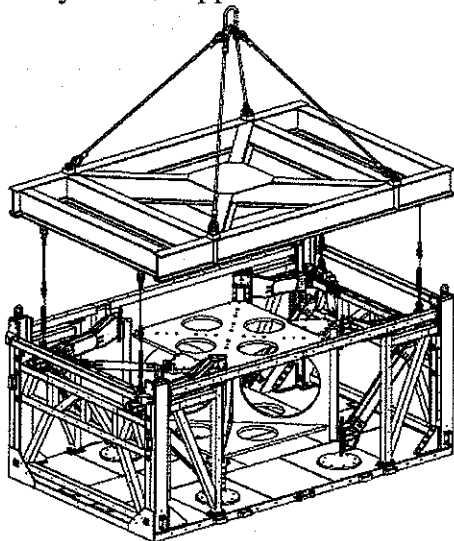

Figure 13
Attach the U-Hook Assembly, SEG38117120-301, to the Sill Trunnion on the Upper USS as shown in Figure 13. Do not install the cotter pin, MS24665-302. Apply a thin layer of Braycote Grease to the threads of each fastener prior to installation. Torque fasteners to 90-304 inch-lbs above running torque. Record the running and final torque. Repeat for all four (4) U-Hooks.
15. Slowly lift the Upper USS-02 to clear the PSS, as seen in Figures 13 and 14.